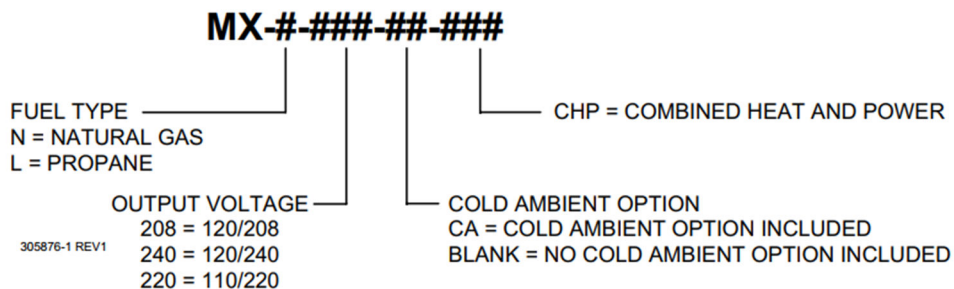

Figure 3-2 – MX Model Tree
- Model Number Model number of the MX unit (Refer to Model Tree in Figure 3-2)